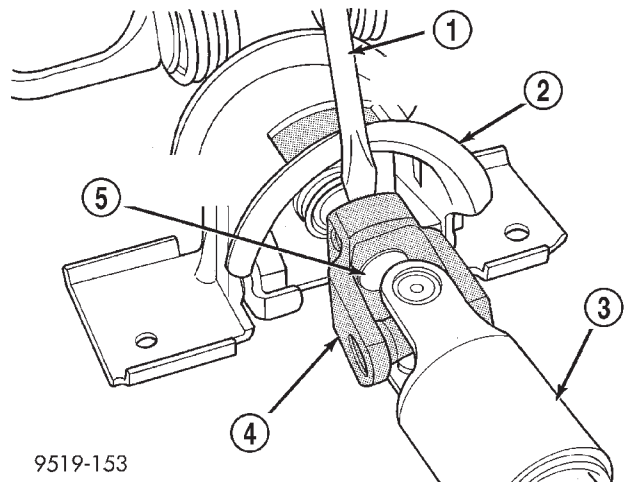

Fig. 30 Removing Intermediate Shaft
(4) Using a screwdriver inserted between the shaft's flex joint and the steering column lower mounting bracket (Fig. 30), pry intermediate shaft off steering column shaft.